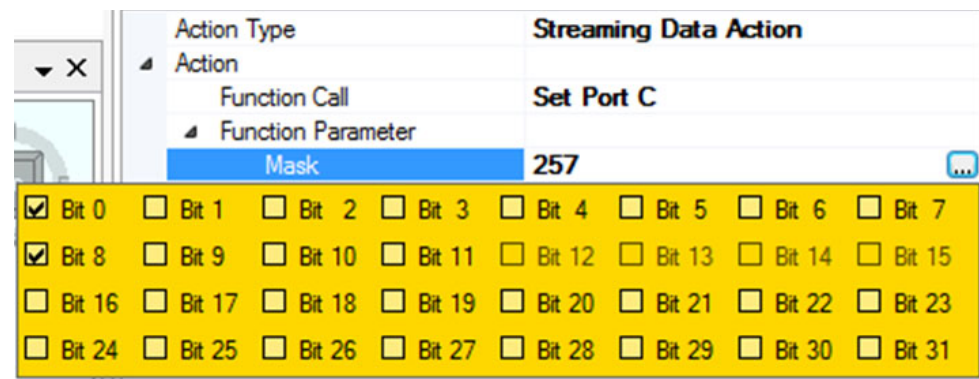

Figure 162: Set Port C
4. Figure 162 (below) shows a configuration which will enable and turn on GPIO[0].